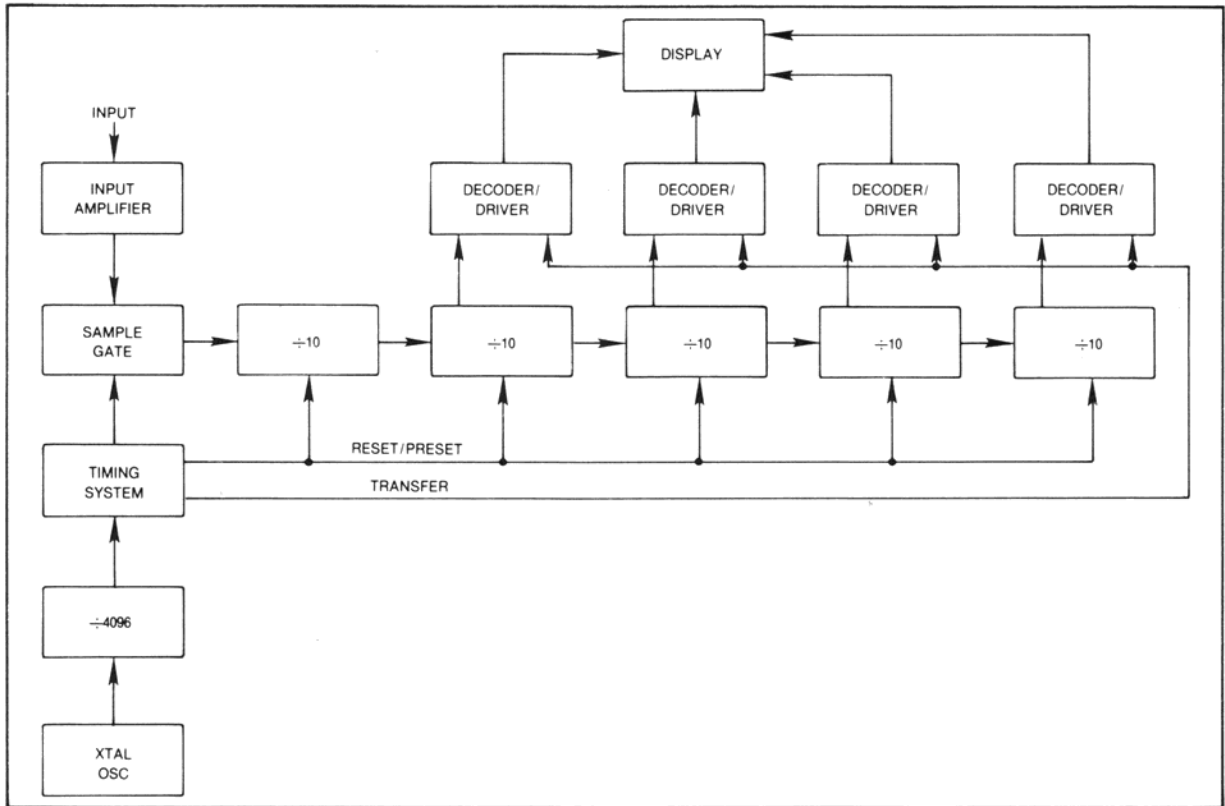
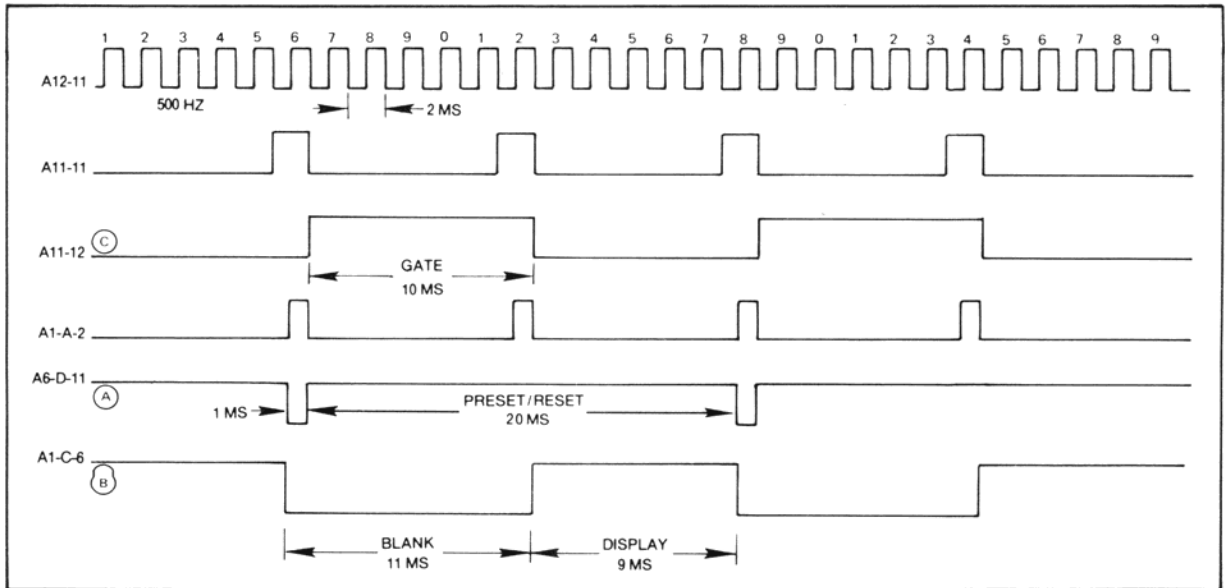
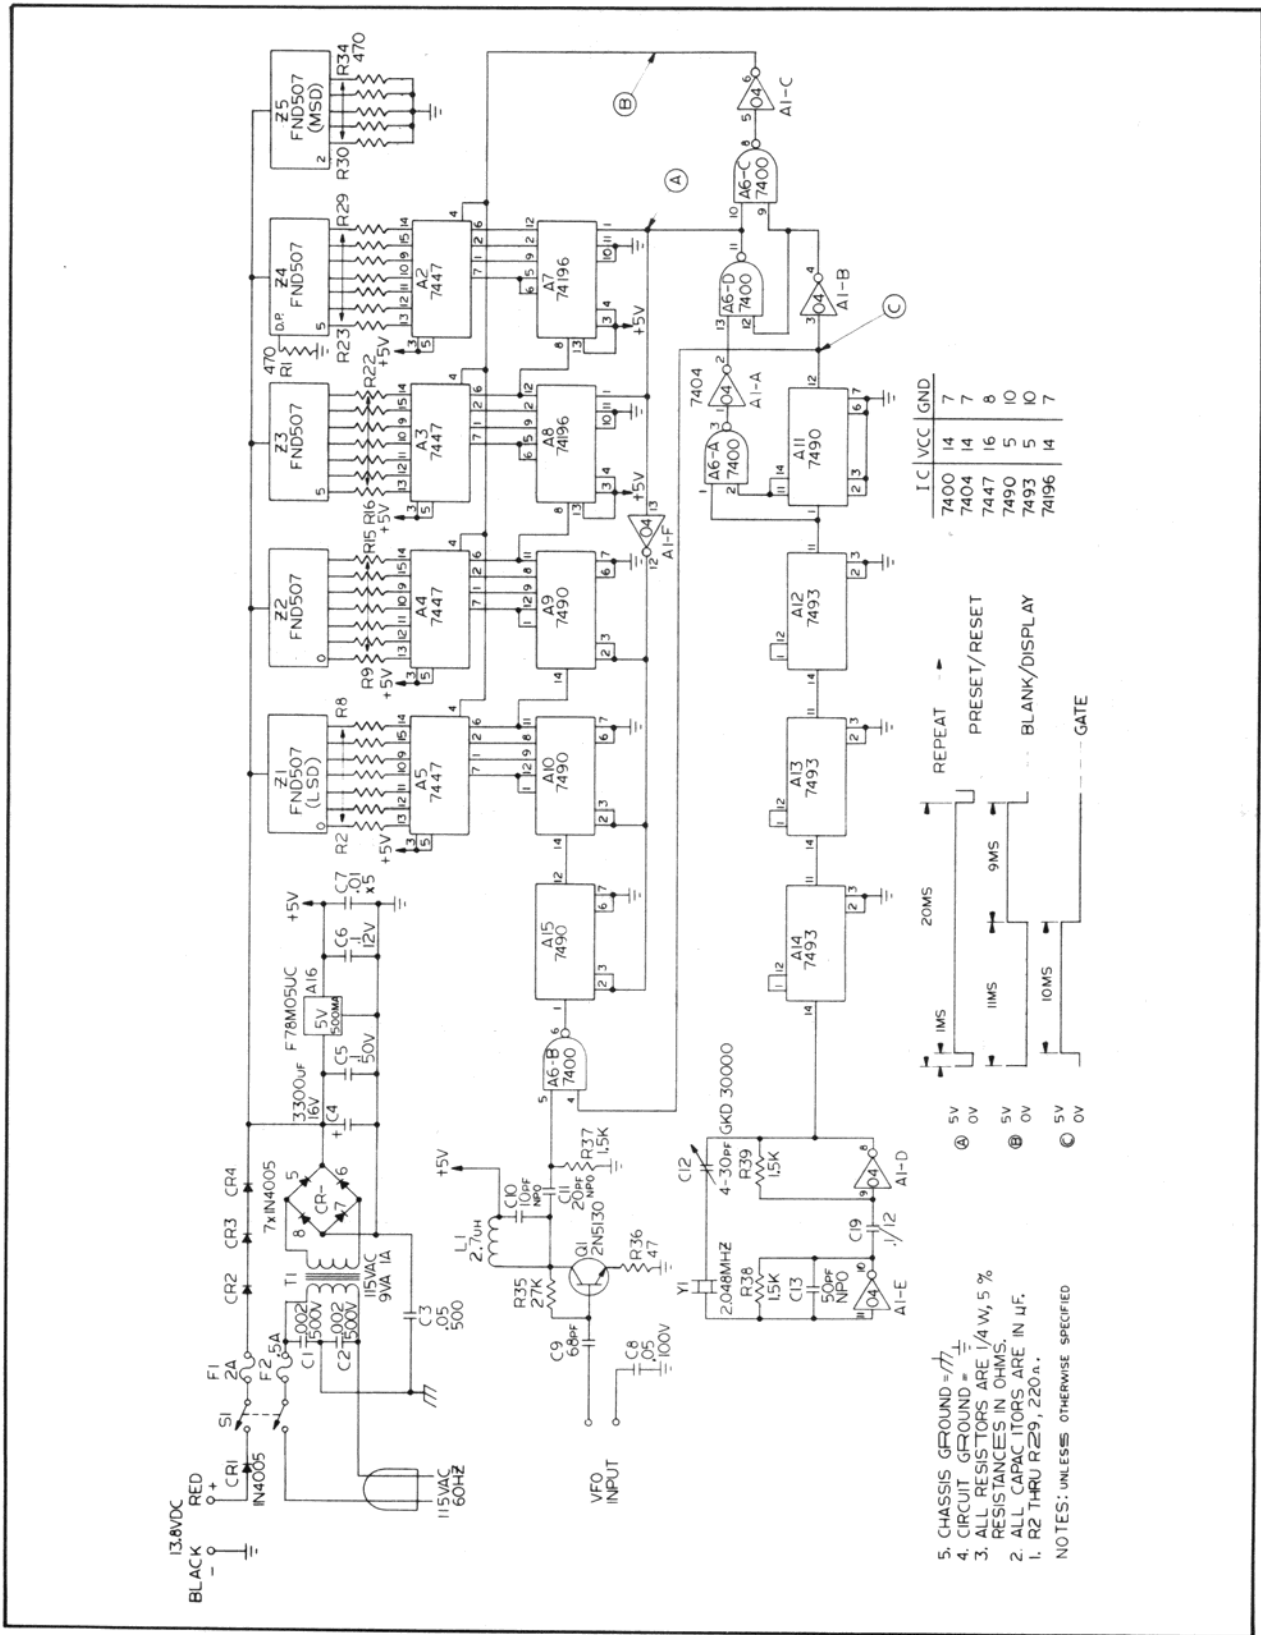

Figure 4-1. Block Diagram, Model FD-1011.
Figure 4-2. Timing System Waveforms.
Figure 5-2. Schematic Diagram.
4-2 This section of the manual describes, in detail, the operation of the amplifiers and logic circuits of the Siltronix FD-1011 Digital Dial. The descriptions are in two parts. The first, supported by the block diagram of Figure 4-1, describes the circuit functionally as a prelude to the more detailed descriptions of the second part which is supported by the logic/schematic diagram of Figure 5-2 and a timing diagram, Figure 4-2. The descriptions herein assume a knowledge on the part of the technician of the operation of digital logic circuits such as NAND gates, inverters, counters, decoder/drivers and seven-segment display devices. The FD-1011 uses many integrated circuit packages, some that contain a multiplicity of identical circuits. The circuits within these packages are not discussed in this text. Only the response of certain outputs which are relative to the discussion of the FD-1011 are detailed. Manufacturer's published data, and other publications readily available to electronics technicians, provide the details of the internal circuits of these devices.
4-4 Refer now to Figure 4-1. When the FD-1011 is connected to a Siltronix Model 1011D transceiver, the output of the transceiver VFO is coupled to the input amplifier of the FD-1011. The sampling gate is enabled for 10 milliseconds by the timing system. The VFO frequency is then divided by a factor of 10 in each of the following decade counters. When the gate is disabled at the end of the sampling period, each of the counters that comprise the division chain will contain a discrete number in BCD code. These numbers as a group are directly related to the input frequency. The most significant figure will be lost and the next most significant figure, plus a count of 5, will be contained in the last counter of the chain and the least significant figure will be in the second counter. The count of 5 that is added is part of the conversion from the VFO frequency to the operating frequency. The operating frequency is the desired display. The addition is further explained in the detailed circuit description.
4-8 Unless otherwise noted, all circuit references in this text are to the schematic/logic diagram of Figure 5-2.
4-11 The 2.048 MHz signal from the oscillator is divided by a factor of 16 in each of the counters, A12, A13 and A14 for a total division of 4096. The frequency at the output of A12 is 500 Hz. This is further divided by 5 to produce signals A11-11 and A11-12 shown in Figure 4-2.
4-13 The identifications of the timing signals of Figure 4-2 are derived from the IC and terminals of their origins. For example, the 500 Hz clock originates from A12, terminal 11. It is identified as A12-11. Timing signal (A), which is the reset pulse, is generated by first combining the 500 Hz clock with A11-11 in NAND gate A6-A. Referring to Figure 4-2 it is seen that the inputs to A6-A are both high only during the time of each 5th successive clock pulse. This produces a train of 1 millisecond negative pulses at 1/5th the clock rate. This pulse train is then inverted in A1-A and applied to the input of NAND gate A6-D along with a 50 Hz square wave from A1-B which is waveform (C) inverted. The inputs to A6-D are both high only during each second pulse of A1-A-2. This eliminates the intervening pulse and generates waveform (A). Waveform (B) is generated by combining waveform A and the inverted waveform (C), (A1-B-4), in NAND gate A6-C. Waveform (A) goes low for 1 millisecond prior to A1-B-4. This, then,